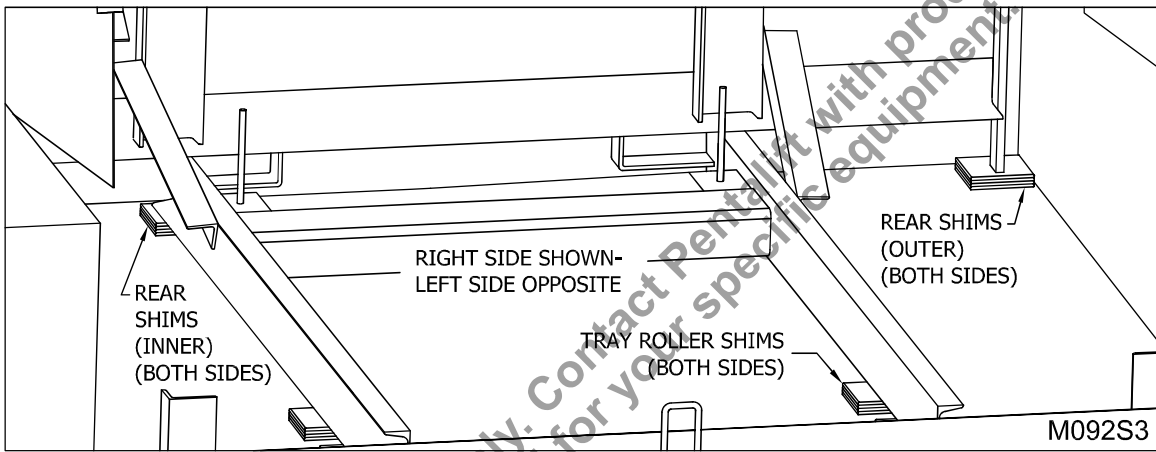

Figure 33: Rear Shims
3. ___ Rear shims (Left and Right side). (See "Figure 33: Rear Shims" on page 30)